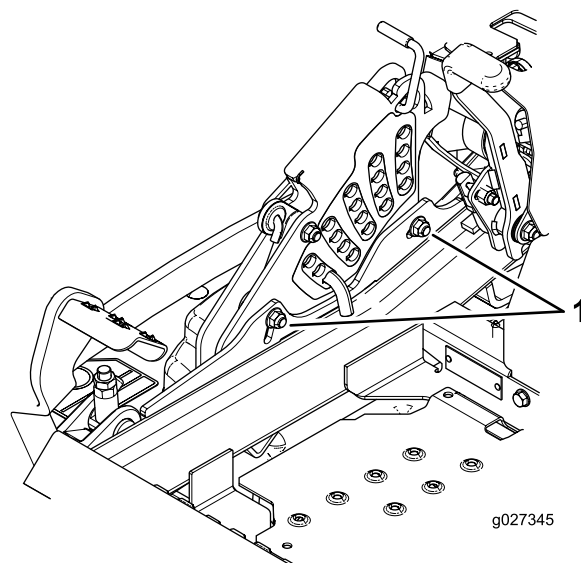

Figure 109
11. To adjust the single-point system, loosen the 2 bolts at the bottom of the height-of-cut plate (Figure 109).
13. Tighten the 2 bolts at the bottom of the height-of-cut plate (Figure 109).